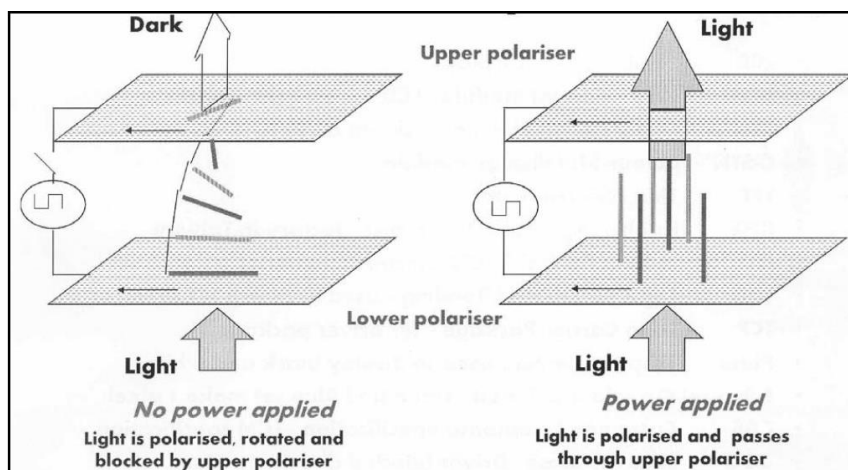

Figure 1: Principle Operation of an LCD (source [5]).
LCDs are constructed with two plates of glass (upper and bottom), a thin layer of liquid crystal (LC) between them and two light polarizers [5][6]. The polarizer is a light filter for the light electromagnetic field. Only the light components in the right electromagnetic field direction pass through the polarizer, while the other components are blocked. The liquid crystal is an organic material that rotates the electromagnetic field of the light 90 degrees or more. However, when an electrical field is applied to the LC it does not rotate the light anymore. With the addition of transparent electrodes in the upper and bottom display glass, its possible to control when the light passes through, and when not, with an external source of the electrical field. Figure 1 below illustrates this operation control. In Figure 1, the display is dark when there isn't an electrical field. This is because both polarizers filter the light in the same direction. If the polarizers are orthogonal, then the display will be dark when the electrical field is present. This is the most common situation for reflective displays.